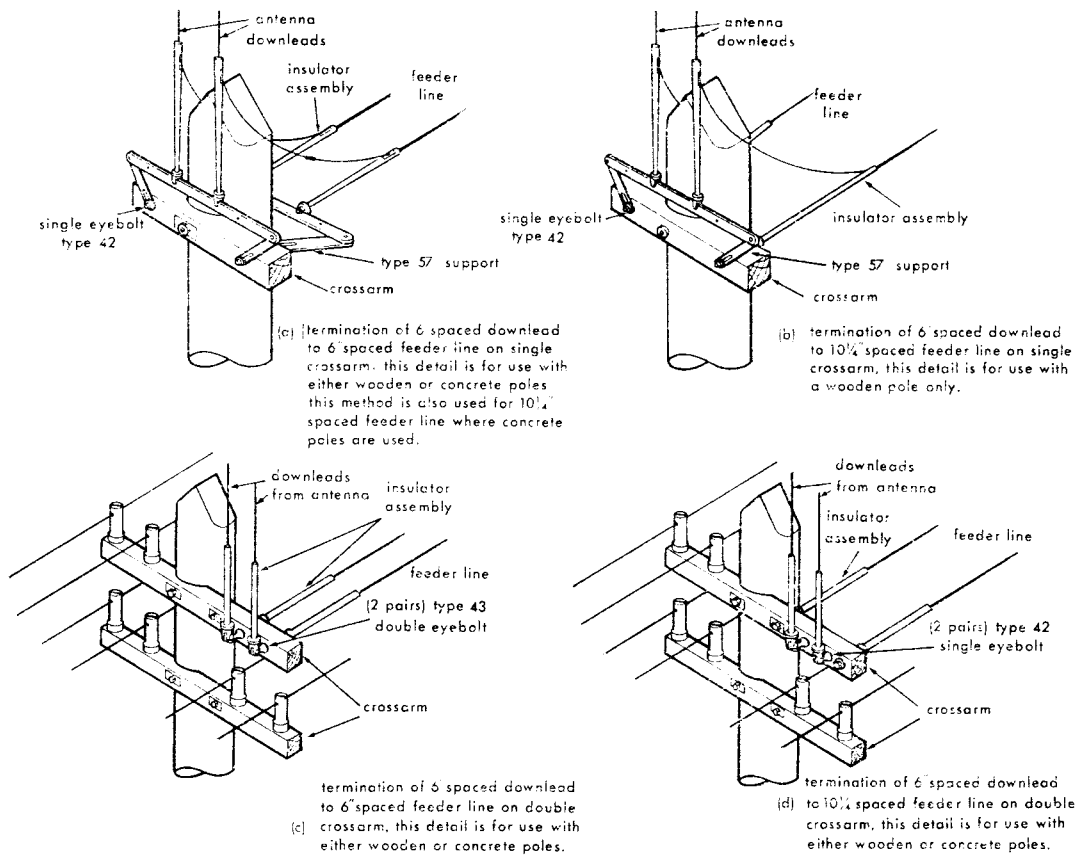

Fig 18.12 Terminating Feeders at Antenna
- Terminate the antenna end of the wire using one of the methods shown in Fig 18.12 overleaf — the method selected depending upon the type of cross arm and the spacing of the feeder lines in use.
- Terminate both ends at their correct positions as shown in Fig 18.12.